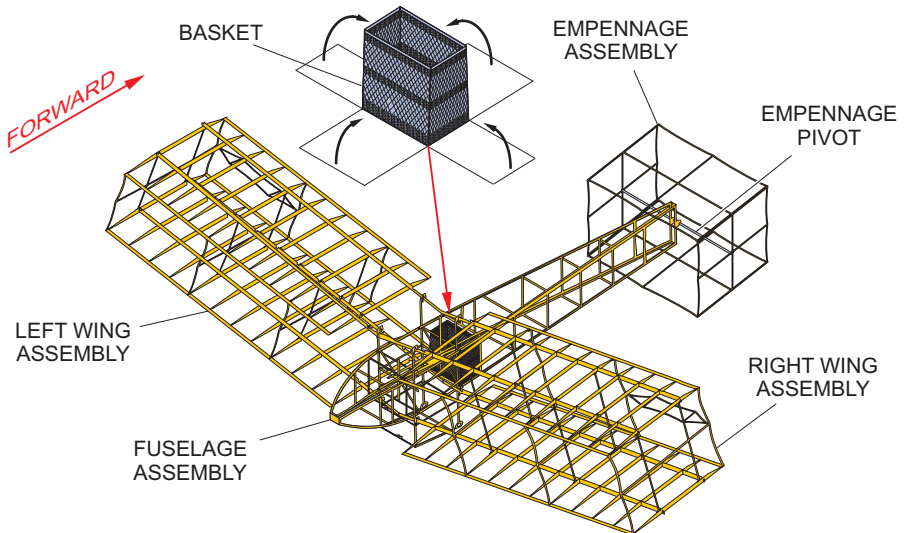

Figure 8
- (1) Remove the basket from the fret and remove any burrs from the attachment tags.
- (2) Fold the basket as shown below in Figure 8 below, then bond the edges to give strong joints. Leave the basket until the adhesive has cured.
- (3) Apply the preferred adhesive, then put the basket in position in the fuselage and leave it until the adhesive has cured.